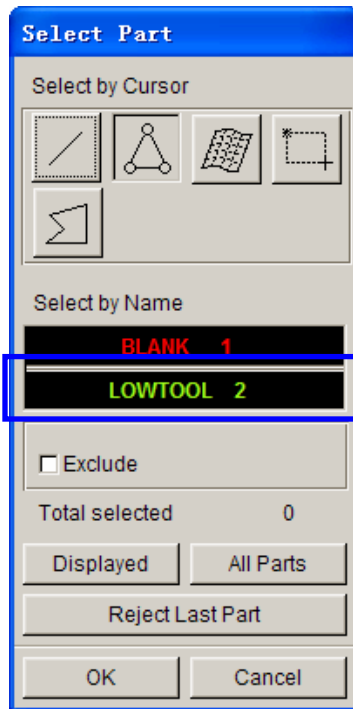

Figure 75: Select part dialog box
6. Select **LOWTOOL** part in the **Select Part** dialog box illustrated in Figure 75.